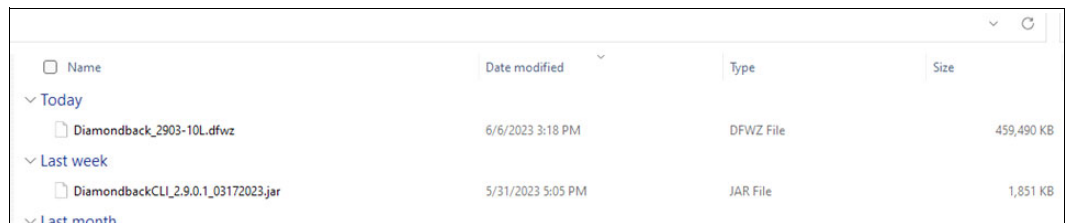

Figure 5-18 Choosing a firmware file for update
2. On the File Upload window, browse to the library firmware image and click **Open**, as shown in Figure 5-18.